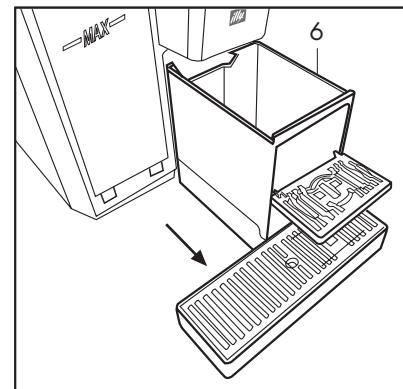
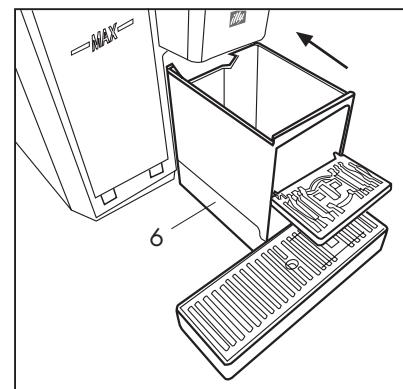

Fig. 15
Fig. 16
- When the capsule container (6) is full the machine stops; the red alarm LED lights up and the message A03 appears on the Display (13); the capsule drawer is full.
Take out the capsule container (6), empty it and rinse it (**Fig. 15**). Clean the drip tray and the grid to remove residue of water and coffee. Once clean, replace the drip tray with the capsule container (**Fig. 16**).